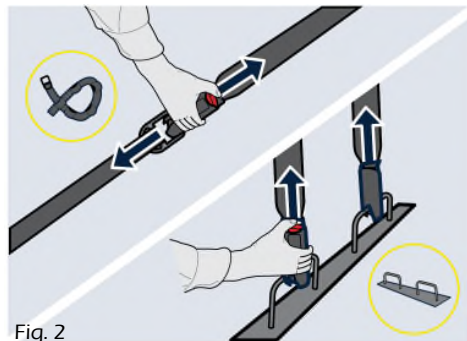

Fig. 2
2) Unlock the lower tethers (M) by holding on to the connectors with your hand and pressing on the red button with your thumb. While keeping the connector in your hand, slowly feed it back to the car seat. Be careful not to let go of the lower tether connector, as it will retract back automatically with high speed (Fig. 2).